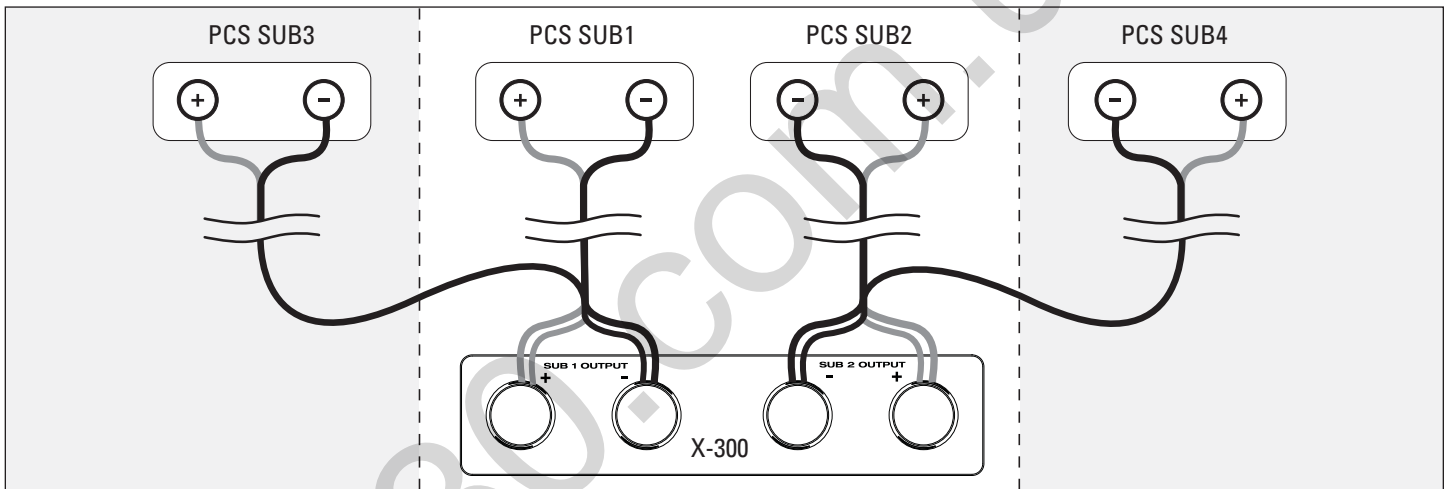

Fig. 6a X-300 Amp / 2 PCS Subs or 4 PCS Subs
#### SUB 1 Output and SUB 2 Output (Figs. 6a – 6c)
**Connecting Two PCS Subwoofers** (Fig. 6a): Connect Red (+) speaker cable to positive SUB 1 (+) Output and Black (-) speaker cable to SUB 1 (-) Output. For second subwoofer, connect Red (+) speaker cable to positive SUB 2 (+) Output and Black (-) speaker cable to SUB 2 (-) Output.
**Connecting Four PCS Subwoofers** (Fig. 6a): Connect Red (+) speaker cable to positive SUB 1 (+) Output and Black (-) speaker cable to SUB 1 (-) Output. For second subwoofer, connect Red (+) speaker cable to positive SUB 2 (+) Output and Black (-) speaker cable to SUB 2 (-) Output. For third and fourth subwoofers, repeat instructions in same order.